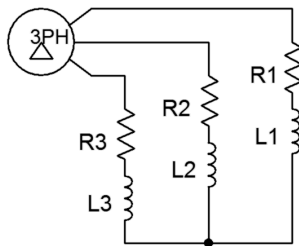

Figure 9.8
15. A 208 3-phase Δ connected generator feeds a Y connected load consisting of 3 legs of $10\ \Omega$ in series with $j4\ \Omega$ of inductive reactance as shown in Figure 9.8. Find the voltage across each load leg, the current through the wires connecting the load to the generator, and the apparent and real powers drawn by the load.
16. Given the delta-wye system of Figure 9.8, if the line voltage is 400 volts and the load is balanced with each leg at $120 + j30\ \Omega$, determine the line current, generator phase current, load current, the voltage across each load leg, and the total real and apparent load powers.